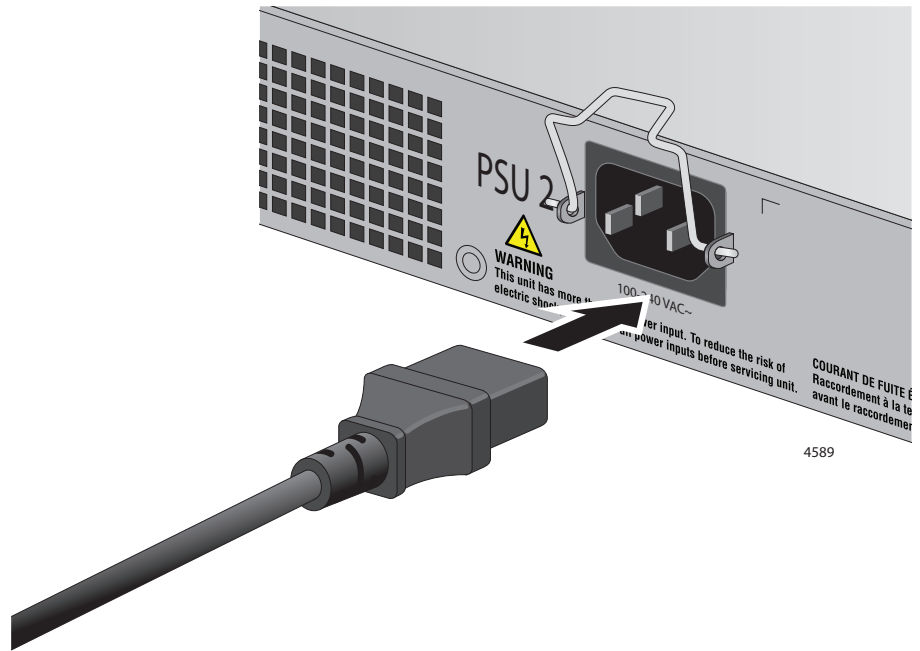

Figure 28. Connecting the AC Power Cords
2. Connect the AC power cord to the AC power connector on the rear panel. Refer to Figure 28 on page 73.